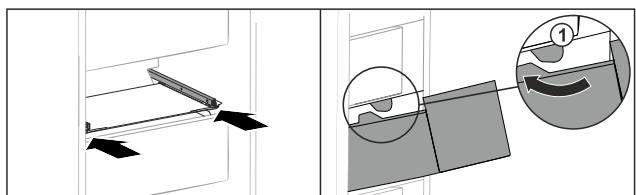

Fig. 154
- Guide drawer around the stoppers Fig. 154 (1).